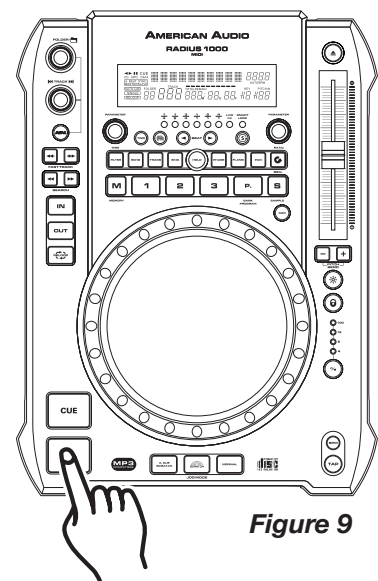
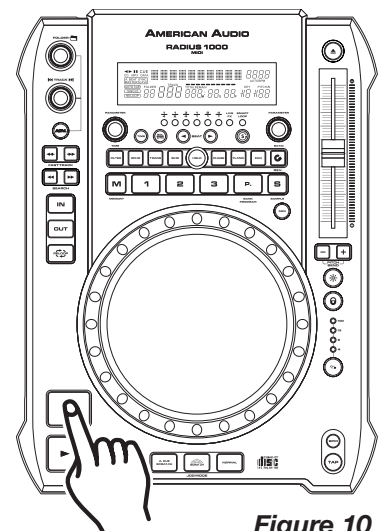
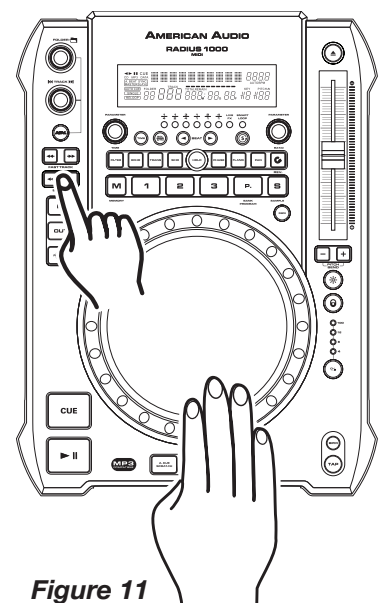

Figure 9
Figure 10
Figure 11
3. STARTING PLAYBACK - *Figure 9*
4. PAUSING - *Figure 9*
5. STOPPING PLAYBACK - *Figures 9 & 10*
- 1) Press the *PLAY/PAUSE BUTTON (13)* during playback. This will pause playback at the exact same point the *PLAY/PAUSE BUTTON (13)* was pressed.
- 2) Press the *CUE BUTTON (14)* during playback. This will pause playback and return the track to the last set cue point.
6. AUTO CUE - *Figure 10*
7. FRAME SEARCH - *Figure 11*
This feature allows you to scroll through a track frame by frame, allowing you to find and set a starting cue, sample, or loop point. To use the scroll function you must first be in Pause Mode or Cue Mode. Once you are in Pause or Cue mode, turn the *JOG WHEEL (9)* to scroll through the track (*Figure 11*). Turning the wheel in a clockwise direction will advance the frame search and turning the wheel in a counter-clockwise direction rewinds the frame search. When you use the *JOG WHEEL (9)* the monitor (headphone level) function allows you to here what you are scrolling through. Once you reach your desired starting point you can set a cue (starting) point by pressing the *PLAY/PAUSE BUTTON (13)* as in *Figure 9*. Pressing the *CUE BUTTON (14)* as in *Figure 10* will now return you to the point you just set.